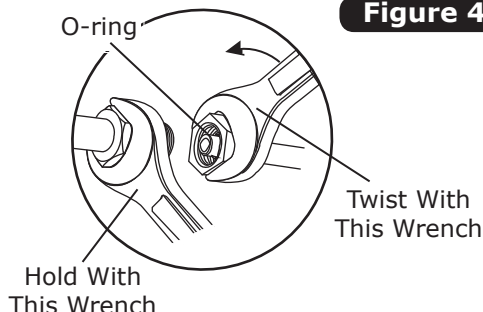

Figure 4
1. Lubricate (2) #6 O-rings as shown in Figure 4, below, and install onto the #6 condenser/drier hardline.
1. Lubricate a #6 and #8 O-ring as shown in Figure 4, Page 8, and install them onto the #6 drier/core hardline and the #8 condenser/core hardline.